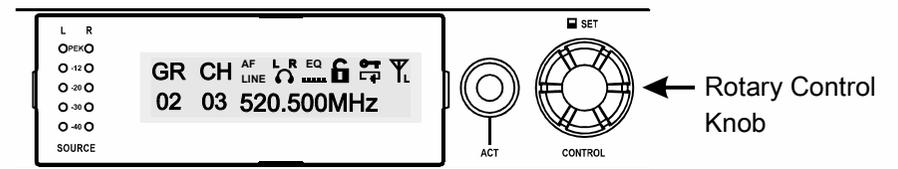

Fig. 6
2. Rotary Control Knob: Menu Settings, Fig. 6: